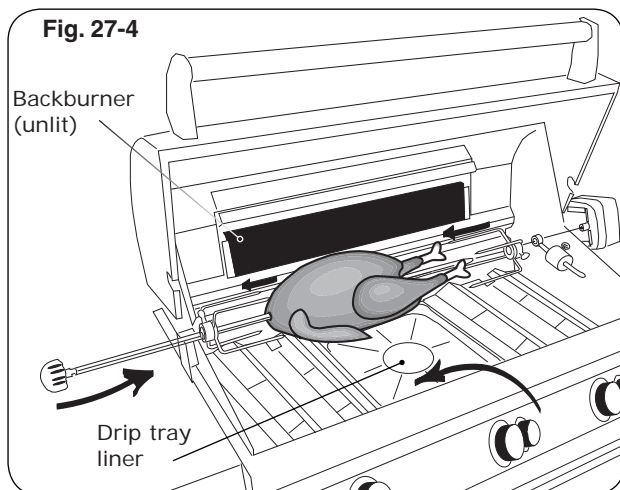

Fig. 27-4
4. Slide the left meat holder onto the rod (and tighten), the meat onto the rod and into the holder, followed by the right meat holder onto the rod and into the meat as shown in Fig. 27-4. Tighten the right meat holder. Be sure the meat is centered and balanced as well as possible.
9. To keep drippings off the burners and simplify cleanup, place Fire Magic® drip tray liners under the meat, if desired (Fig. 27-4).